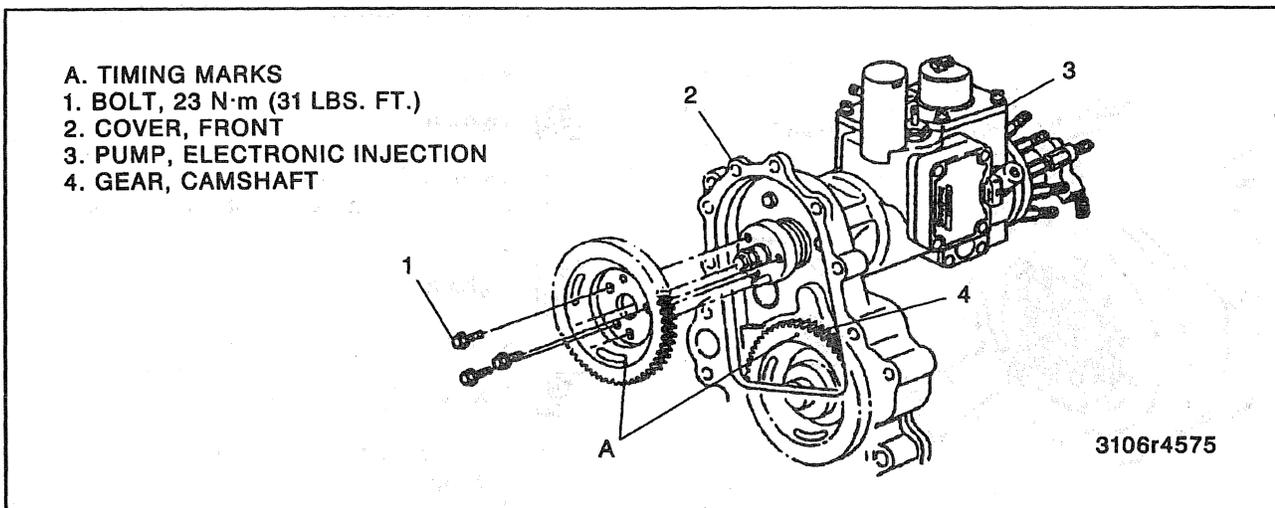

Figure 23—Injection Pump Gear and Timing Marks
- Rotate the engine until the timing marks on the pump gear and camshaft gear are aligned (figure 23).
- Clearance between injection pump gear and baffle (figure 23). It is necessary to maintain a minimum of 1.0 mm (0.040 inch) between the gear and baffle or noise may result.
**Install or Connect (Figures 23 and 24)**